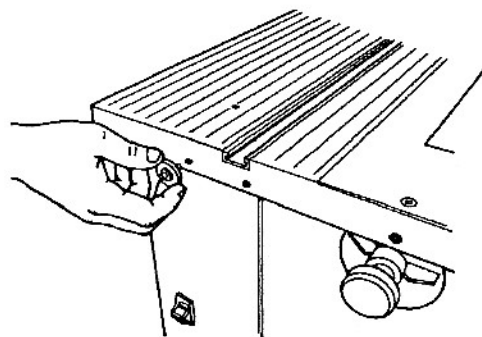

Fig. A-1
2. Attach a thumb screw (392) to the threaded hole located in the left infeed edge of the table, as demonstrated in Fig. A-1.